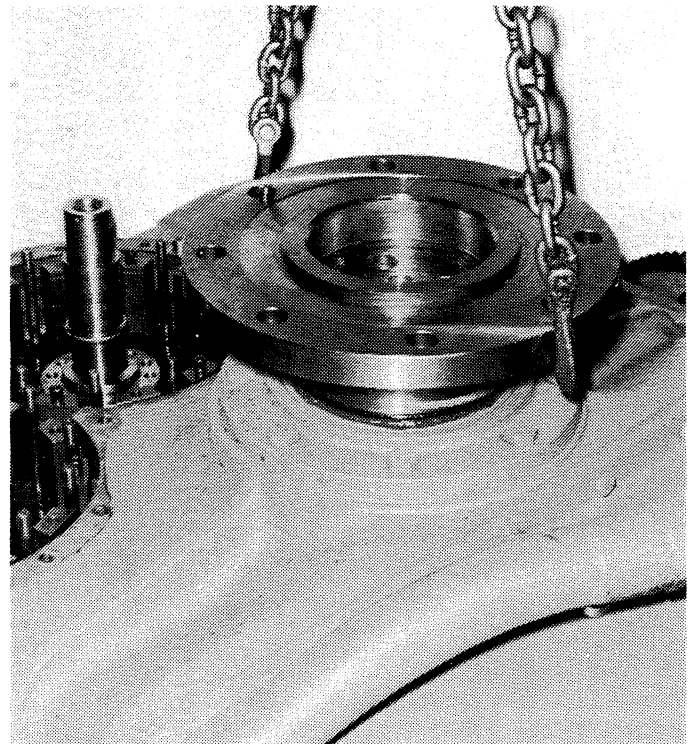

Figure 6-21. Removing or Installing Output Flange.
2. Remove the output flange. See Figure 6-21.